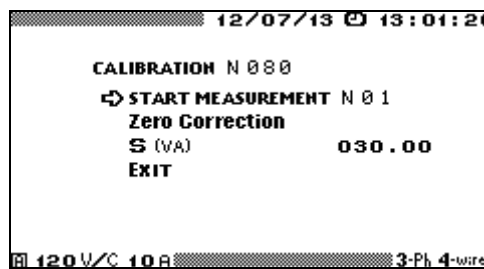

Fig. 4.43. "Calibration of CTs" selection window
Press “**ESC**” to return to the Main menu, or select “**ENTER CALIBRATION N**” item and press “**ENT**” to go to the next calibration screen (Fig. 4.43).
Set measuring range of the EM-3.3T1 at D 5A or D 1A. Push CTCS button to enable “**MEASUREMENT**” mode ("Measurement" indicator lights up). Click on "Calibration" item in the “**CALIBRATION OF CTS**” selection window (Fig. 4.43) to enable a new measurement (Fig. 4.45). Manually adjust variable transformer to pass the required primary (test) current through primary windings of both reference CT and that under test. While doing this, watch secondary currents on the screen of the EM 3.3T1. The CT-under-test secondary current is displayed as  $I_{A(1)}$  and Reference CT output current is displayed as  $I_{B(1)}$ . If the secondary current is less than 0.6A (for a CT with 5A output) or less than 0.12A (for a CT with 1A output), manually set current measurement ranges of the CTCS and EM 3.3T1 to D 0.5A or D 0.1A respectively.
Before calibration, it is necessary to type in the value of apparent power that was selected on the Burden Set for the CT under test load (VA). Go to “**CALIBRATION N**” window (Fig. 4.43), put the cursor opposite to S (VA) option and press “**ENT**”. Set the required value in the editing window.
Then select “**ENTER MEASUREMENT N**” option in the “**CALIBRATION N**” (Fig. 4.43) window. After few seconds delay the results of CT calibration appear in the form pictured below (Fig. 4.45).
A measurement can be stopped at any time by clicking on "STOP MEASUREMENT N" prompt, which will turn to "SAVE MEASUREMENT N". By clicking on "Save..." option you may record the result in to the EM 3.3T1 memory. Before the next measurement, you may change the value of apparent power (VA) by selecting a new one on the Burden Set (then the new value shall be manually specified in the "Measurement entry" screen (Fig. 4.43). Then repeat the procedure with other test conditions.